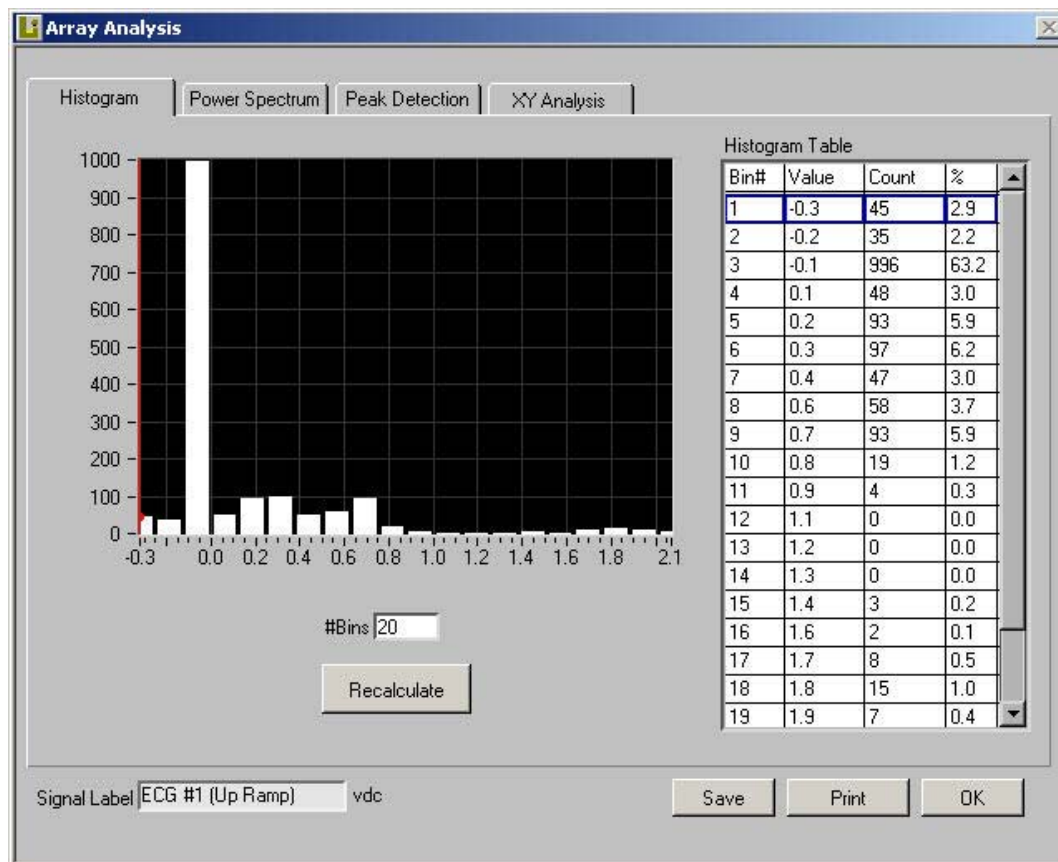

Figure 4-6. Histogram Tab, Array Analysis Dialog Box
2. Click on the **Array** button to the right of the graph of the signal that you want to perform array analysis on. The Array Analysis dialog box shown in Figure 4-6 appears. The label of the signal you are analyzing appears in the Signal Label display.
The Histogram tab creates a histogram of the selected data set, as shown in Figure 4-6.